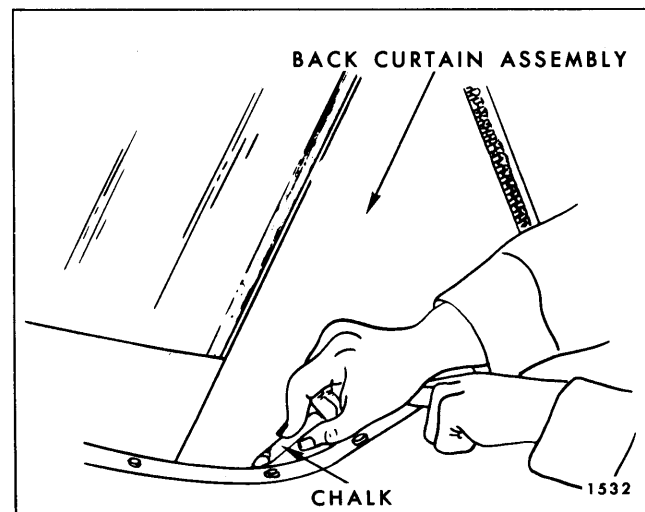

Fig. 13-52—Marking Back Curtain
13. Where required, place reference chalk mark on outer surface of back curtain along pinchweld finishing molding. Re-adjust back curtain assembly as required (Fig. 13-52).